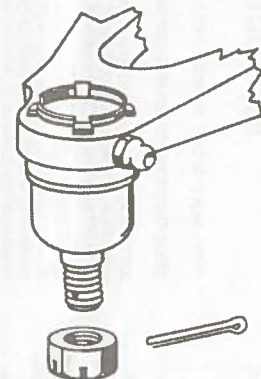

Figure 1
7. With a punch (or drift) and hammer, unlock the lower ball joint from the lower control arm by bending the staked edges up. Make sure that all of the staking is bent up properly so that the ball joint can be pressed out. See Figure 1.